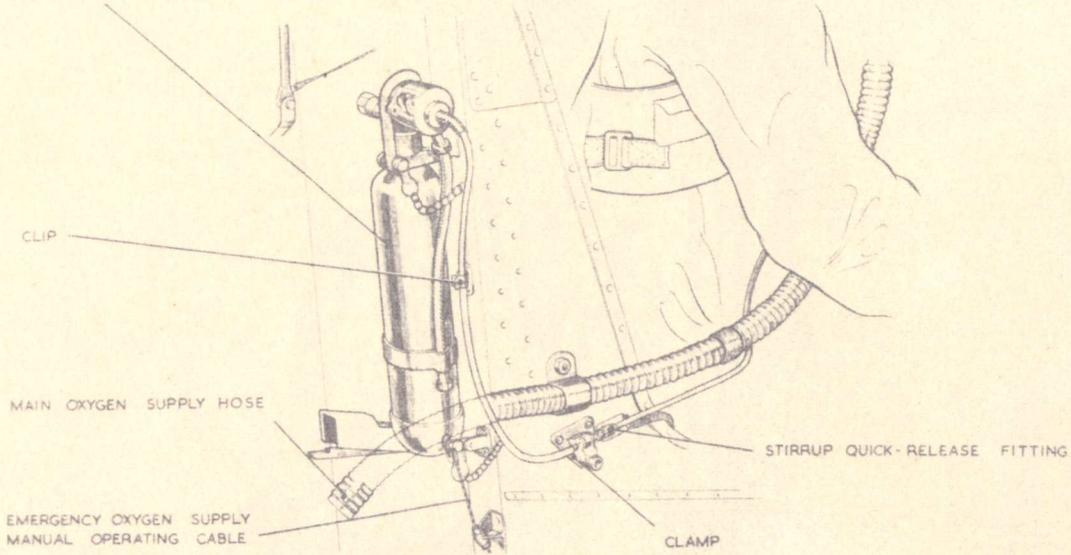
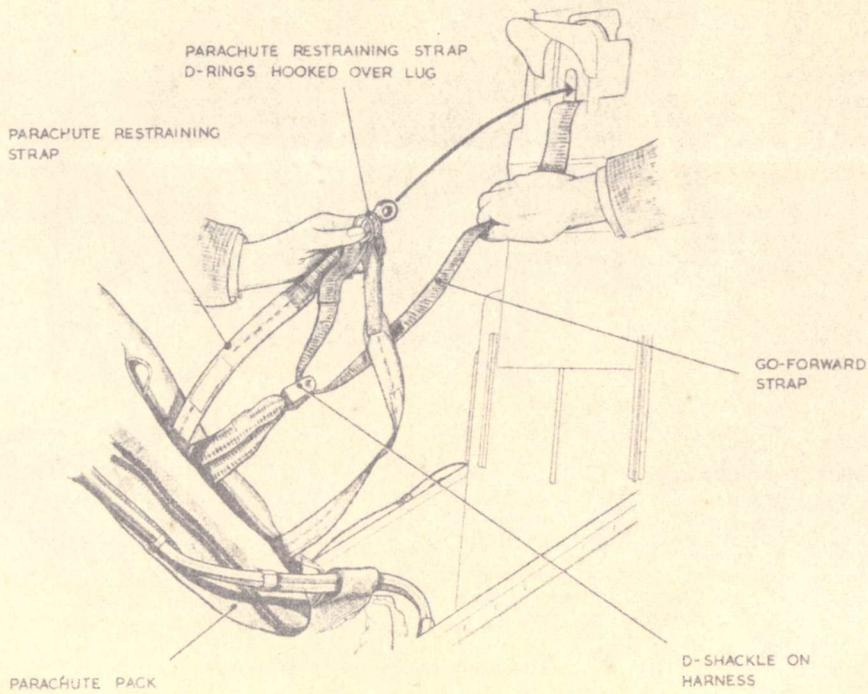
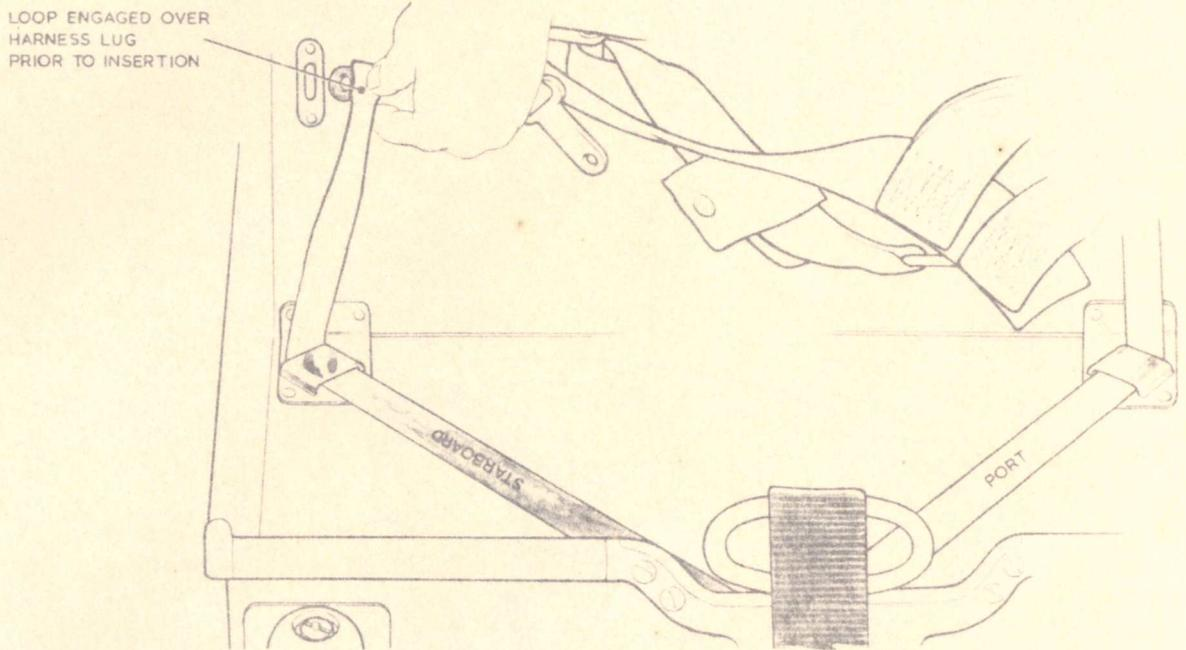
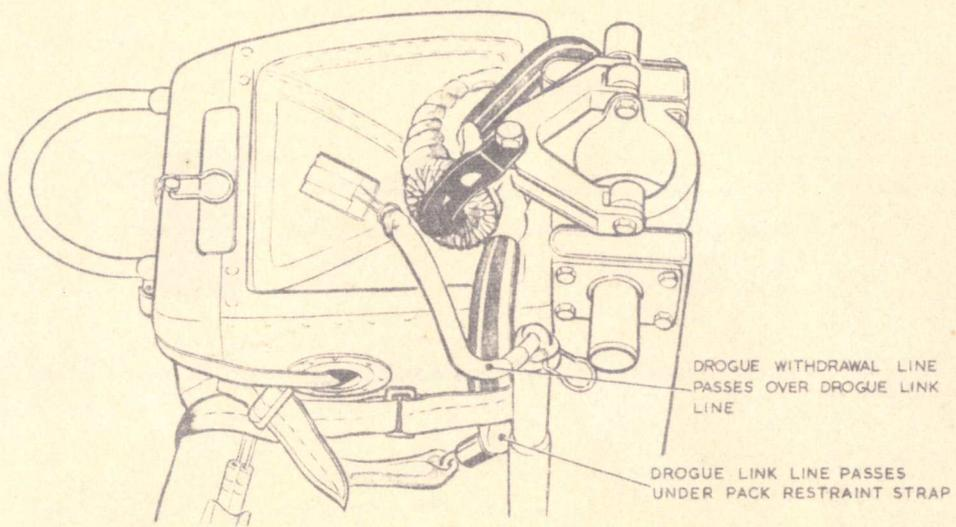

Fig. 3. Arrangement of oxygen supply
Fig. 4. Insertion of top harness lock
Fig. 5. Inserting the starboard bottom harness lock (port similar)
Fig. 7. Arrangement of drogue withdrawal and link lines
- (2) Ensure that the emergency oxygen supply manual control is pushed fully down; connect the cylinder operating cable to the actuating arm on the rear of the seat pan (*fig. 3*).
- (3) Ensure that the manual separation lever is in the operated (upward) position. Place the parachute pack on its support bracket on the seat structure and ensure that the harness straps are not twisted.
- (4) Operate the harness 'go-forward' lever and pull out the centre ('go-forward') strap. Pass the strap upwards through the D-shackle on the harness shoulder straps, taking care that the fitting is in its natural position and that the straps are not twisted. Pass the O-rings of the pack restraint straps over the lug of the centre strap, lift the parachute pack forward and fit the lug into the attachment point on the seat (*fig. 4*). Place the manual separation lever in the locked (down) position and ensure that the lug is secure by attempting to pull the harness away from the anchorage.
- (5) Replace the parachute pack on its support bracket.
- (6) Position the headrest cushion on the parachute pack, ensuring that it fits correctly under the drogue container.
- (7) Pass the left-hand pack restraint strap over the parachute withdrawal line, through the buckle on the short strap at the left-hand side of the drogue container and then forward through the buckle on the left-hand side of the headrest cushion.
- (8) Pass the right-hand pack restraint strap through the buckle on the short strap at the right-hand side of the drogue container (refer to the note following sub-para. (7)) then forward through the buckle on the right-hand side of the headrest cushion.
- (9) Tighten the left-hand pack restraint strap and then the right-hand strap so that the pack and headrest cushion are held firmly in position.
- (10) Connect the two halves of the link line coupling ensuring that the line passes under the left-hand pack restraint strap and UNDER THE DROGUE WITHDRAWAL LINE (*fig. 7*).
- (11) ◀ Fit the negative-G restraining strap as follows:—
- (c) Engage the looped end of each strap over its bottom lock harness lug and insert the lugs into their bottom locks (*fig. 5*). It may be necessary to partially depress the harness release lever beneath the barostatic time release unit to facilitate insertion of the lugs. Check that they have locked correctly by pulling on the lugs.
- (12) Lift the harness clear of the seat pan and insert the personal survival pack into the pan, first lowering the rear of the pack and then sliding it to the rear.
- (13) Place the comfort cushion on the top of the personal survival pack and secure it to the harness straps.
- (14) Fit the harness sticker straps into the clips on the inside of the seat pan.
- (15) Connect the side quick-release connectors of the personal survival pack to the parachute harness. Ensure that the harness straps are positioned inside the quick-release connectors.
- (16) Drape the personal survival pack lowering line over the front, port side of the seat pan. ▶◀
- (17) Fit the stirrup quick-release fitting of the upper oxygen assembly to its bayonet fitting in the clamp block at the right-hand side of the seat pan. Pull lightly on the upper oxygen tube assembly to check security of attachment. Ensure that the operating strap is attached to the parachute harness sticker strap.
- (18) Remove and retain the safety pin from the emergency oxygen cylinder operating head.